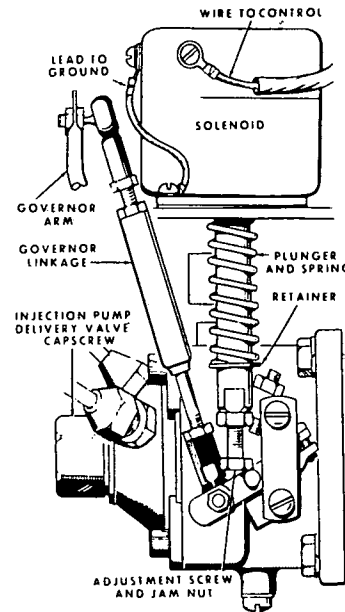

FIGURE 19. FUEL (GOVERNOR) SOLENOID
This solenoid (Figure 19) is also referred to as a governor solenoid as it over-rides the governor. The solenoid is mounted on the cylinder air housing bottom pan and controls the injection pump throttle lever. When energized, the plunger is in the solenoid body. When de-energized, the solenoid spring forces the plunger against the throttle arm, holding the throttle shut. The solenoid has two coils. Both are energized for pulling the plunger up. When the plunger reaches the top, it opens a set of contacts, de-energizing the pull-in coil. The other coil holds the plunger up.
10. Connect the throttle linkage to the governor (Figure 19).